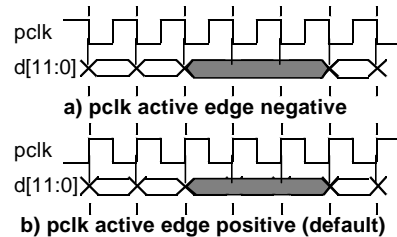

Figure 35. *pclk* in Free Running Mode
- In free running mode the pixel clock output pin, *pclk*, is always running with a fixed period. Pixel data appearing on the digital video bus *d[11:0]* are synchronized to a specified active edge of the clock as shown in Figure 35.